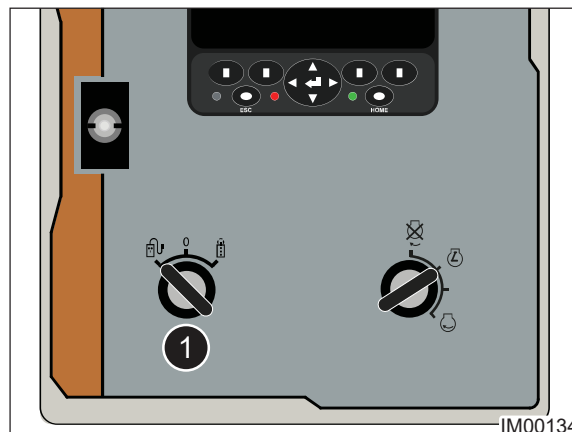

Fig. 6.5 - Track Switch - Umbilical Position
6. Rotate the Track Switch Counter-Clockwise to the Umbilical Handset position (Item 1, Fig: 6.5).
- Rotate the Track Switch (Item 1, Fig: 6.5) to the Off / Neutral position.
(1) Umbilical Handset - Direction Of Travel